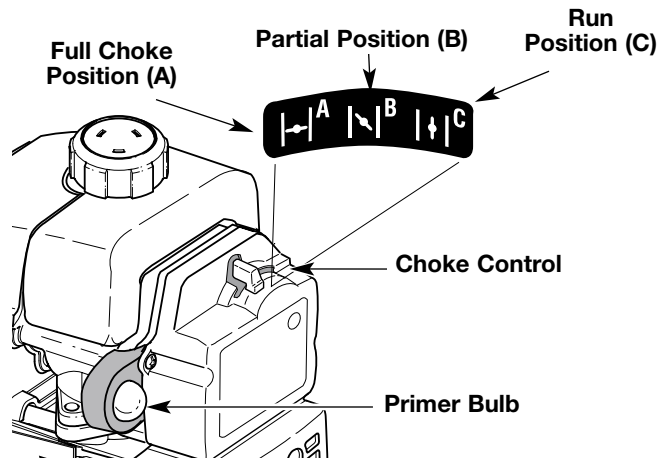

Figure 8
3. Fully press and release primer bulb slowly 5 to 7 times. Fuel should be visible in the bulb. If fuel is not visible, press three (3) more times, or until it is. See Figure 8.
4. Place the choke lever in the FULL choke position (A |←|). See Figure 8.
6. Place the choke lever in the PARTIAL choke position (B |↘|). See Figure 8.
**NOTE:** If the engine floods while trying to start, place the choke lever in the RUN position (C |→|). Squeeze the throttle control. Pull the starter rope briskly. The engine should start within three (3) to eight (8) pulls.
9. Squeeze the throttle control to warm up engine for 5 to 10 seconds. Place the choke lever in the RUN position (C |→|). See Figure 8.
2. Put the On/Off Stop Control in the STOP (O) position. See Figure 8.